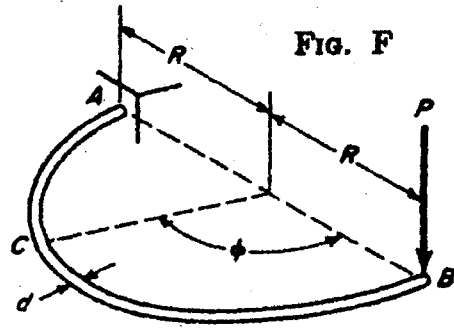

Fig. Q5a
5. a) A shaft of diameter d , bent in the form of a semicircle AB of radius R , is built-in at A and loaded at B by a force P acting perpendicular to the plane of the ring as shown in Fig. Q5a. Assuming that d is small compared with R so that the theory of bending of straight bars may be used, find the value of ϕ for which the principal stress σ_1 will be a maximum.